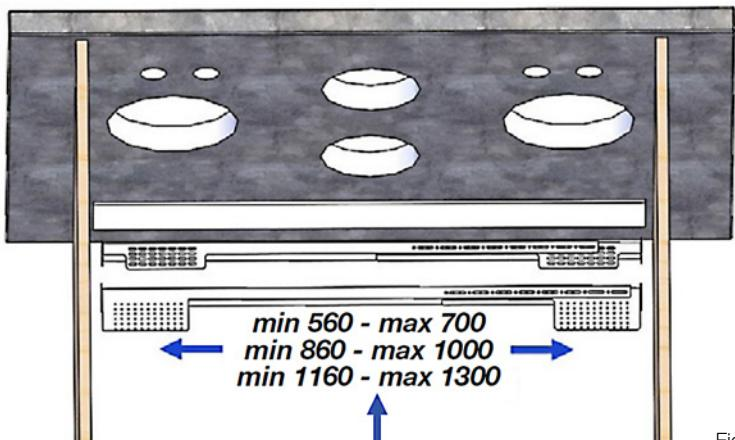

Fig.8
5. Measure the desired length these two sections need to be in correspondence with the internal cabinetry (Fig.8). Note: Min 860mm – Max 1000mm for 880 units and Min 1160mm – Max 1300mm for 1180 units.